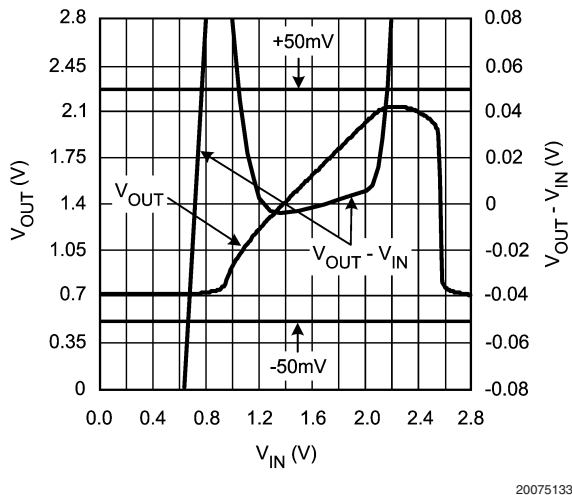
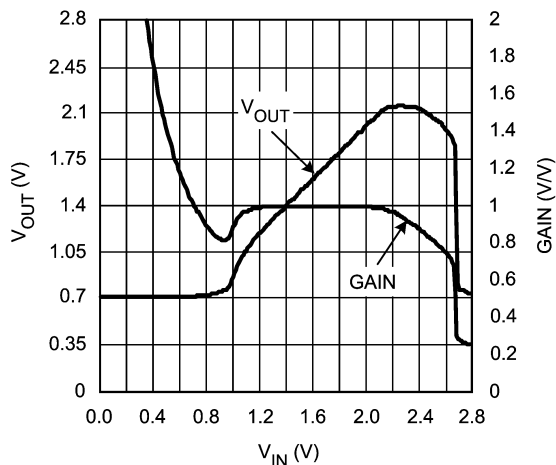

FIGURE 3.  $V_{OUT} - V_{IN}$
FIGURE 4. Gain
Due to the internal loop gain of 1, the output will follow the input. The output voltage cannot swing as close to the supply rail as the input voltage. For linear operation the input voltage swing should not exceed the output voltage swing. The restrictions for the output voltage can be examined by the two curves in Figure 3. The curve  $V_{OUT}$  (V) shows the response of the output signal versus the input signal and the curve  $V_{OUT} - V_{IN}$  (V) shows the difference between the output and the input signal.
In Figure 3 the input signal is swept between both supply rails (0V - 2.8V). The linear part of the plot ' $V_{OUT}$  vs.  $V_{IN}$ ' covers approximately the voltage range between 1.0V and 2.0V. If a difference of 50mV between output and input is acceptable, the output range is between 1.05V and 2.15V (see curve  $V_{OUT} - V_{IN}$ ). Alternatively the output voltage swing can be determined by using Figure 4. In the plot 'Gain vs.  $V_{IN}$ ' it can be seen that the gain is flat for input voltages from 1.15V till 2.1V. Outside this range the gain differs from 1. This will introduce distortion of the output signal.